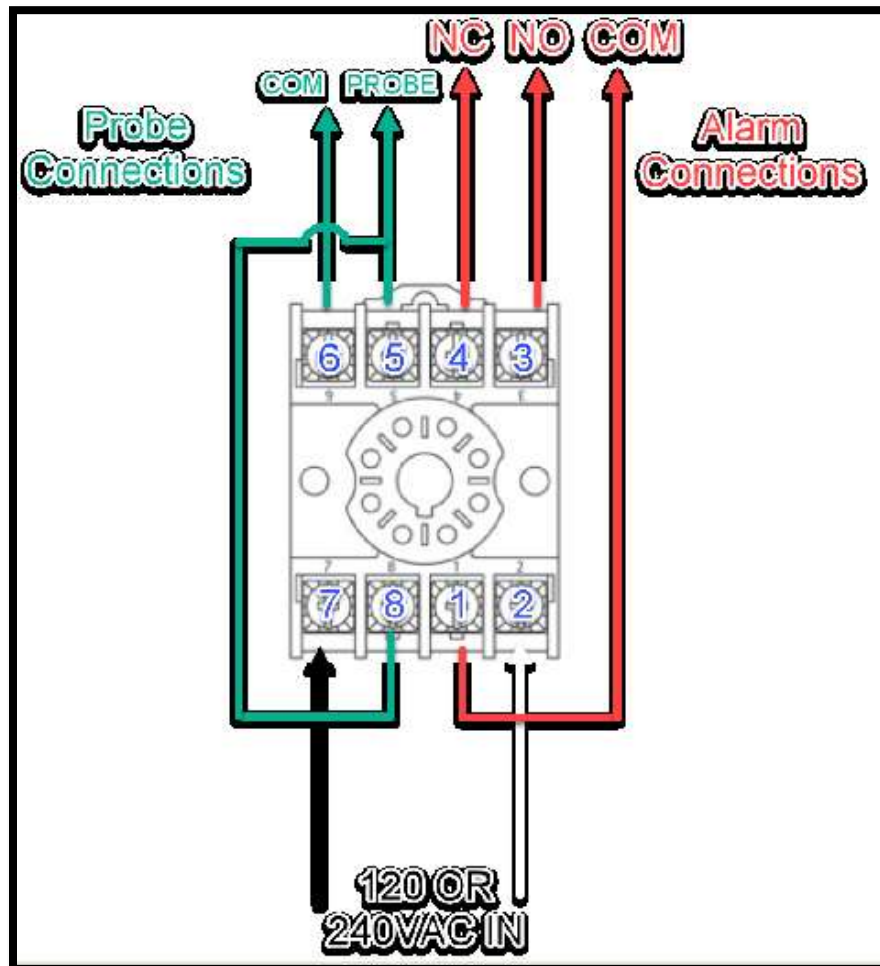

Figure 2
2. You will be shorting the probe wires. Pin #5 & #6 (See figure 2). Once you short these two wires, the relay will trip and an alarm signal will be output.
2. You will be shorting the probe wires. Pin #5 & #6 (see figure 2). Once you short these two wires, the relay will trip and an alarm signal will be output.